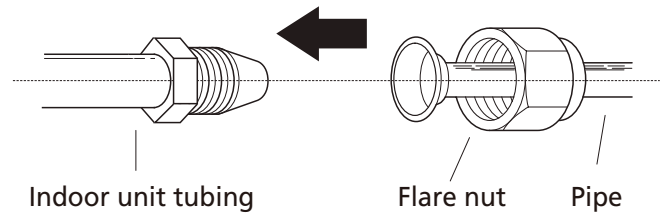

Fig. 5.7
- Align the center of the two pipes that you will connect. See **Fig. 5.7**.